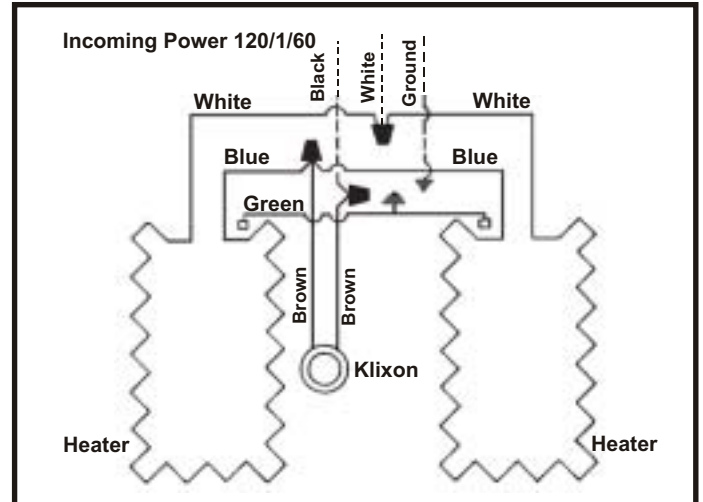

Fig. 36
- If the walk-in has a pressure relief port, connect the electrical line to it. (See Fig. 36)